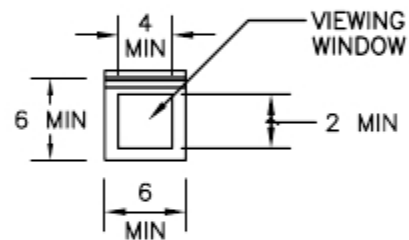

FIGURE 4
- d. Provided with a demand reset cover with a viewing window (see fig. 4). The reset cover shall be sealable and lockable with a padlock having a 5/16-inch lock shaft.